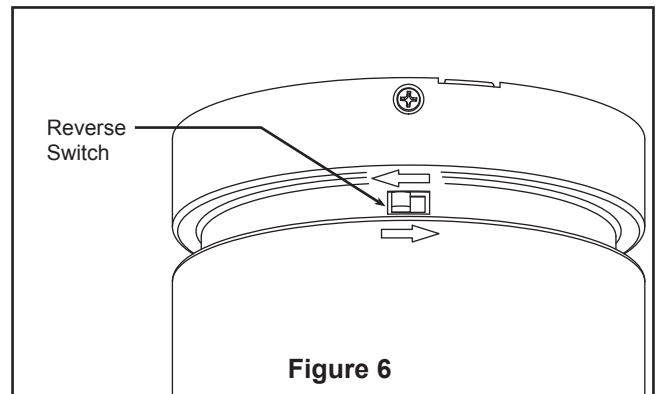

Figure 6
- 5. Hang the motor assembly from the ceiling bracket assembly using the hook on the ceiling bracket assembly and the cable loop from the motor assembly as shown. (Figure 6)
6. Connect the 2 single pin connectors from the LED assembly to the 2 single pin connectors from motor assembly. (Figure 6)
- ### 6. If airflow is desired in the opposite direction, turn the fan off and wait for the blades to stop turning. Then slide the reverse switch on top of motor assembly to the opposite position and turn fan on again. (Figure 6 )